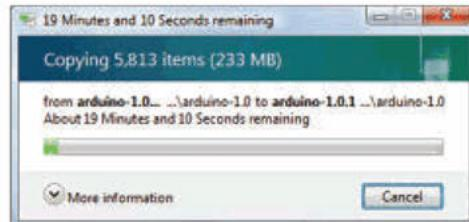

FIGURE 18: Extract All, Step 5.
- ❑ Click the ‘Extract’ button. You may want to get comfortable since there are a lot of files that must be unzipped (**Figure 18**).